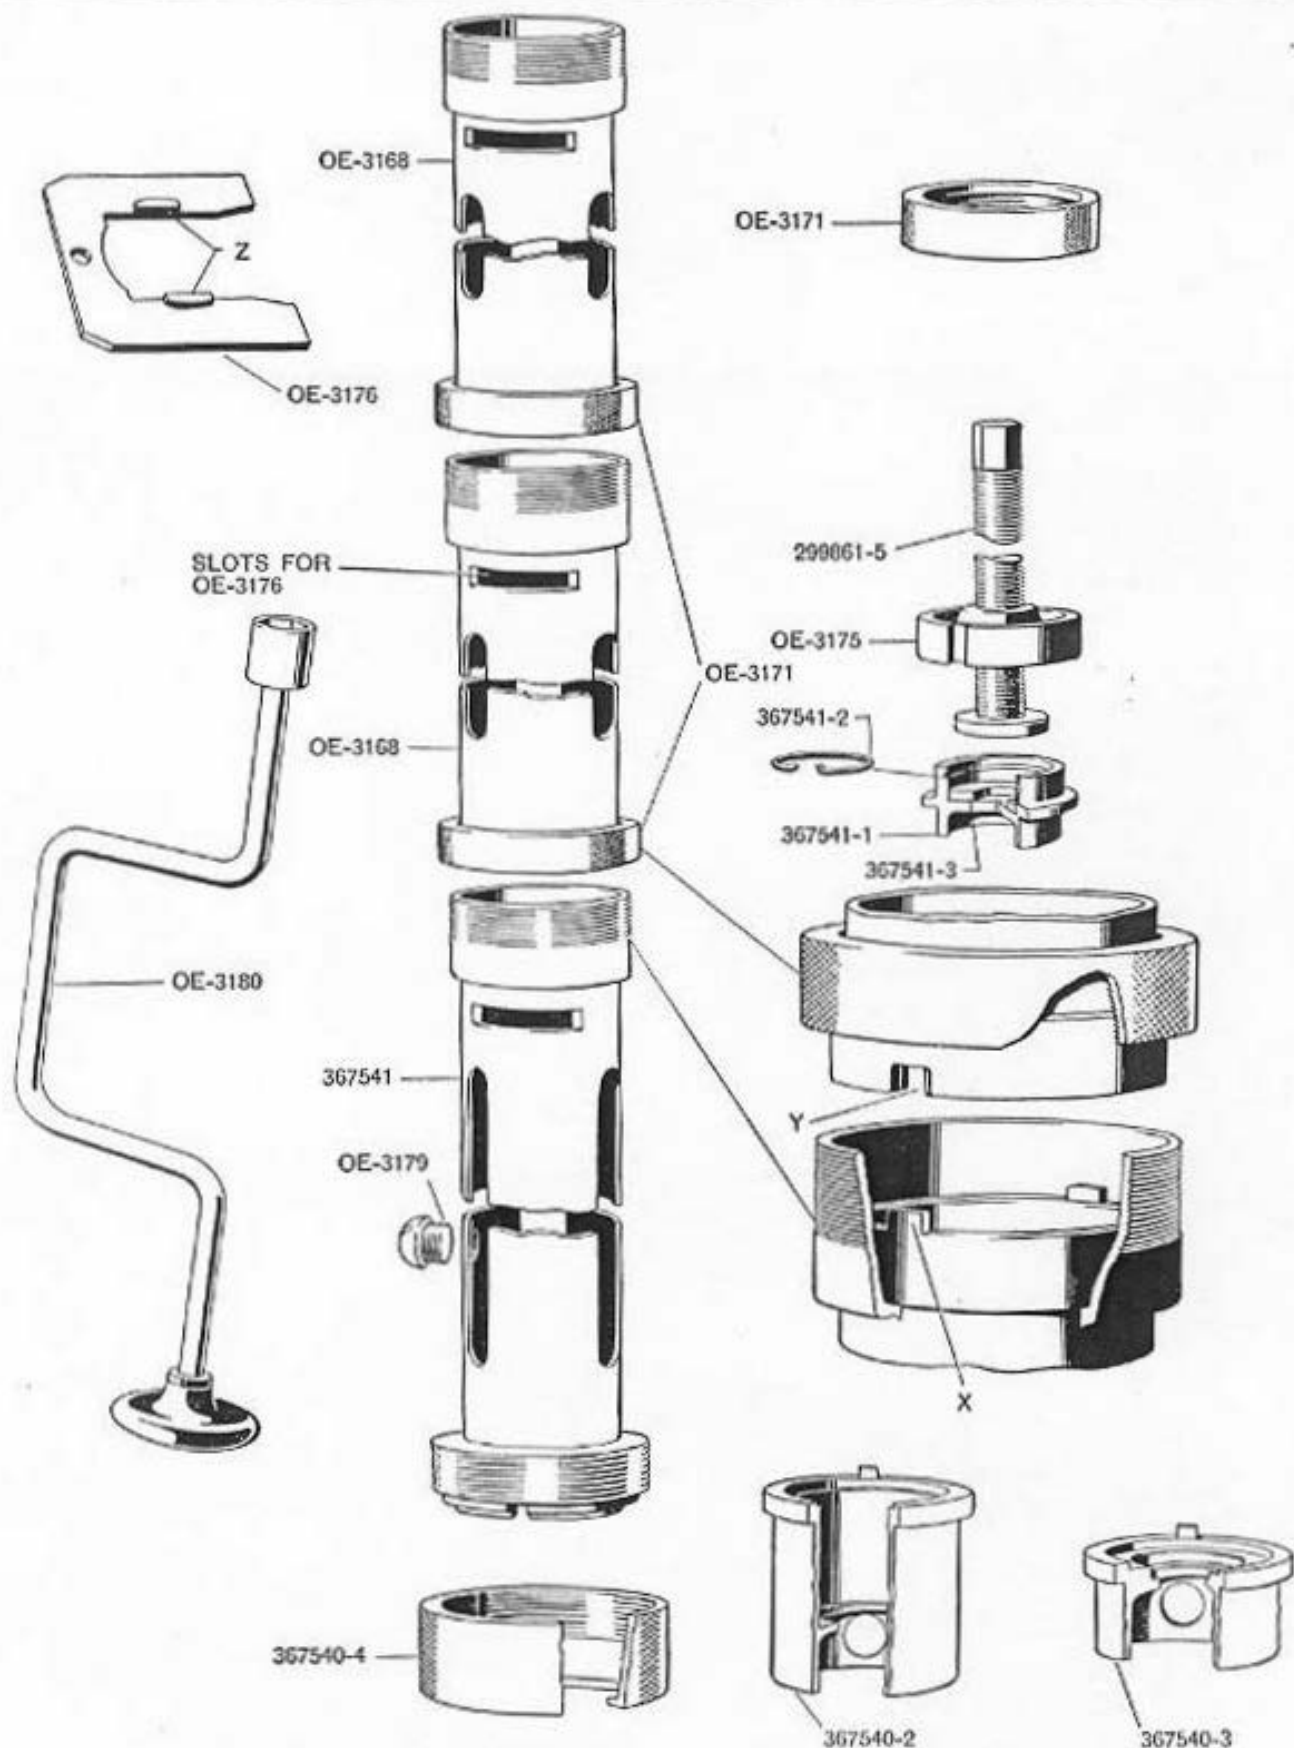

Figure 18—Equalizing Spring Compressing Tool—367539
Equalizing spring compressing tool assembly (367539), Figure 18, consists of the following:
4. Install the tool screw assembly (299861-5) in the end of the long tube being careful to have keyways in nut (OE-3175), Figure 18, fitted over the lugs in the long tube. **This nut must seat firmly over the lugs.** Lubricate thrust bearing at the end of the screw with extra light mineral oil, Navy Symbol 1042, 2075 or 2110.
NOTE—Lugs (Z), Figure 18, on the stop plate must be toward wrench end of tube. This is necessary to provide a positive lock.
11. Install one short tube assembly (OE-3168) on the long tube assembly being certain that the lugs (X) in the short tube engage in the slots (Y) in the long tube, see Figure 18. Complete seating of the lugs in their slots is necessary to prevent the tubes twisting during stripping of the springs.